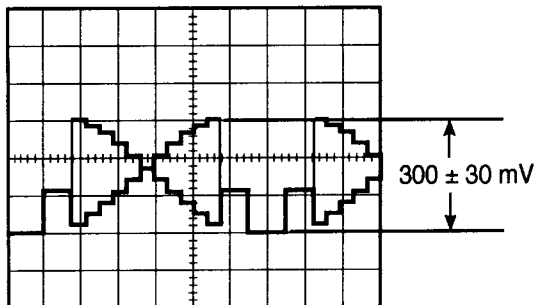

Fig. 5-11
- Set the Lens Iris so that the signal level at the pin 1 of CN2 becomes 300 ± 30 mV as shown in Fig. 5-11.